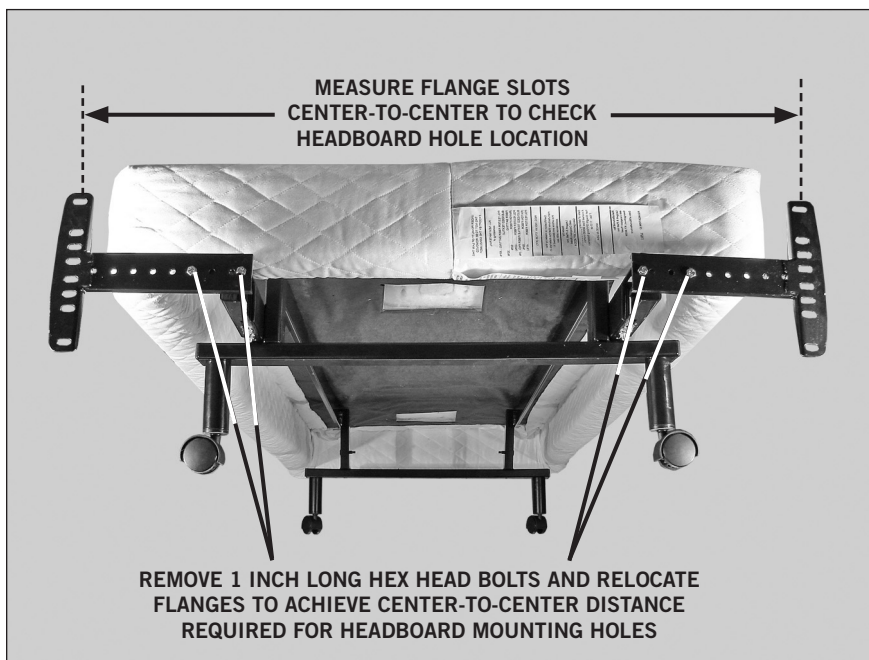

FIGURE 11: Headboard bracket measurement and adjustment to accept headboard.
- g. Measure the center-to-center distance between the mounting slots of the headboard bracket flanges (**FIGURE 11**).
- h. If bracket flange adjustment is required to accept the headboard, remove the 1 inch headboard bracket flange bolts and move flanges side-to-side for the adjustment (**FIGURE 11**). Reinstall bolts and tighten.